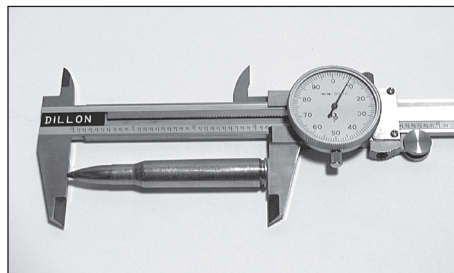

FIG 119
7. Repeat as necessary until the correct overall length is achieved. Use a dial caliper or equivalent to measure the overall length of the cartridge **FIG 119**. Check the overall length of the round against the information in your reloading manual.